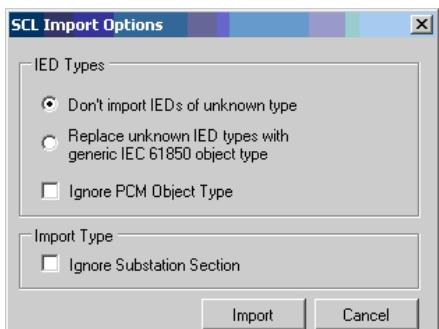

Figure 67: IEC 61850: Import SCD file
4. A *SCL Import Options* window opens, which queries how the file should be handled during import, see Figure 67.